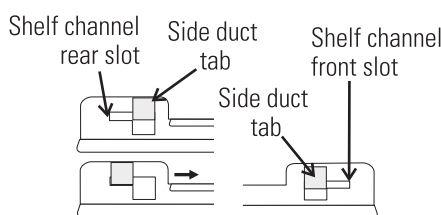

Figure 1-11. Slot and Tab
2. Install the shelf channels by placing the channel's rear slot over the appropriate rear tab on the side duct. Pull the shelf channel forward and engage the channel's front slot into the side duct's appropriate forward tab. Refer to Figure 1-11.